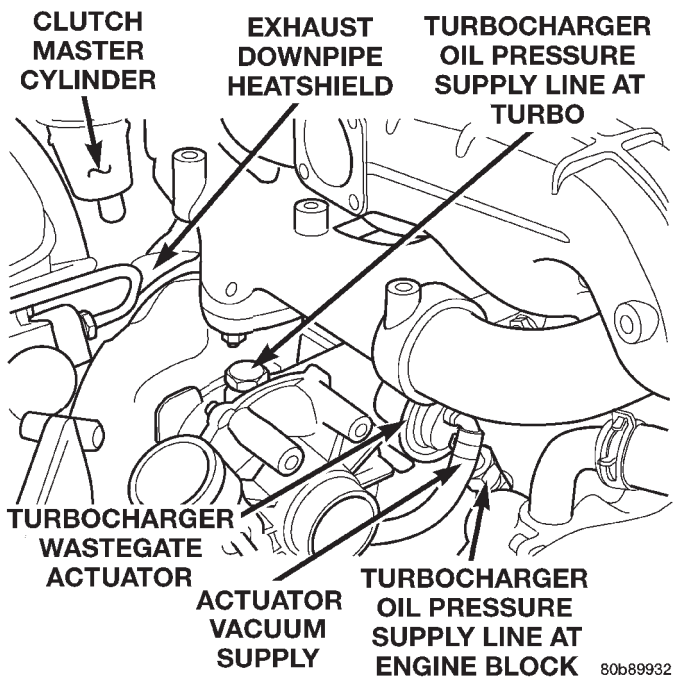

Fig. 20 R.H.D. Turbo Position & Orientation
(5) Position the turbocharger oil pressure supply line in its original position (Fig. 20). Torque the turbo fitting to 27 N·m (20 ft. lbs.).
(6) Install the wastegate actuator vacuum supply hose on the actuator (Fig. 20).